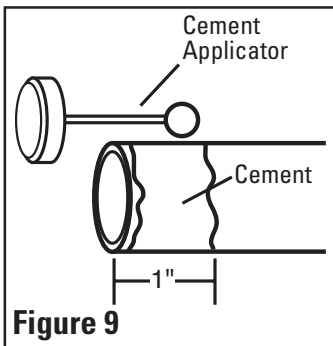

Figure 9
7. Once all tubing has been cut, cleaned, and checked for fit, apply model CVFA35 PVC cement (not included) or equivalent cement to the outside of the tubing covering about 1". **DO NOT** allow any of the cement to enter the inside of the tubing (**Figure 9**).
6. Once all tubing has been cut, cleaned, and checked for fit, apply model CVFA35 PVC cement (not included) or equivalent cement to the outside of the tubing covering about 1". **DO NOT** allow any of the cement to enter the inside of the tubing (**Figure 9**).